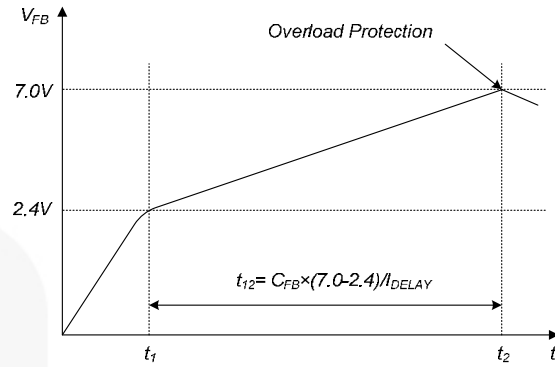

Figure 20. Overload Protection
4.1 Overload Protection (OLP): Overload is defined as the load current exceeding its normal level due to an unexpected abnormal event. In this situation, the protection circuit should trigger to protect the SMPS. However, even when the SMPS is in normal operation, the overload protection circuit can be triggered during the load transition. To avoid this undesired operation, the overload protection circuit is designed to trigger only after a specified time to determine whether it is a transient situation or a true overload situation. Because of the pulse-by-pulse current limit capability, the maximum peak current through the SenseFET is limited and, therefore, the maximum input power is restricted with a given input voltage. If the output consumes more than this maximum power, the output voltage (V_{OUT}) decreases below the set voltage. This reduces the current through the opto-coupler LED, which also reduces the feedback voltage (V_{FB}). If V_{FB} exceeds 2.4V, D1 is blocked and the $2.0\mu A$ current source starts to charge V_{FB} slowly up. In this condition, V_{FB} continues increasing until it reaches 7.0V, when the switching operation is terminated, as shown in Figure 20. The delay for shutdown is the time required to charge CFB from 2.4V to 7.0V with $2.0\mu A$. This protection is implemented in Auto-Restart Mode.